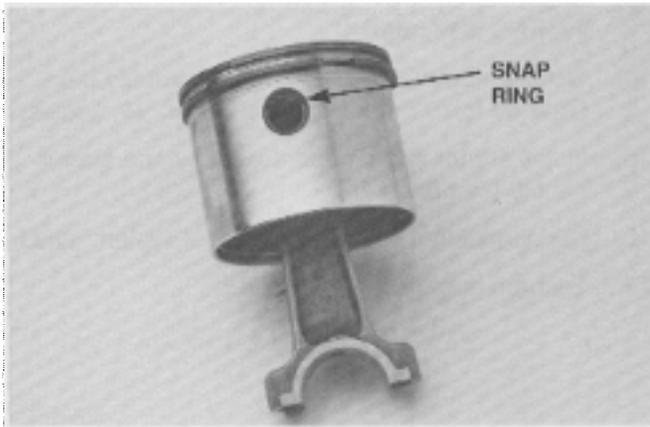

Figure 75
1. Secure wrist pin using snap ring. Make sure square edge of snap ring faces out and ring opening faces up (toward top of piston) (Figure 75).